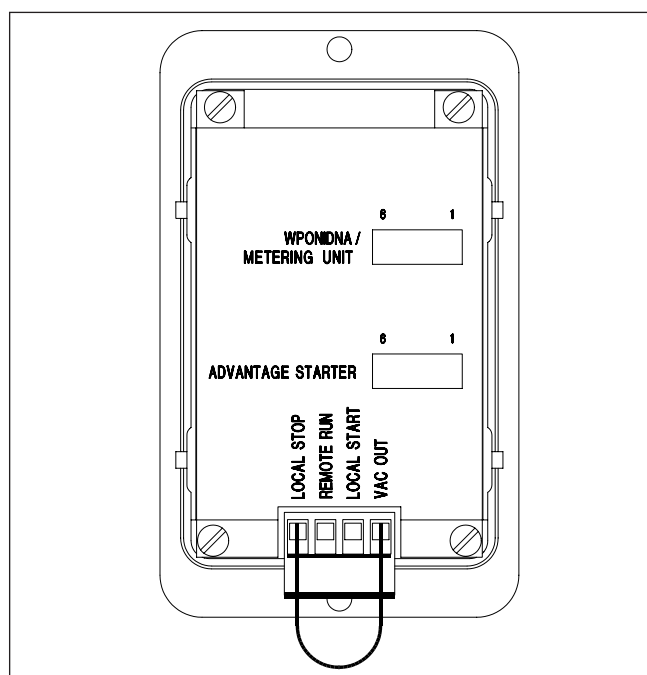
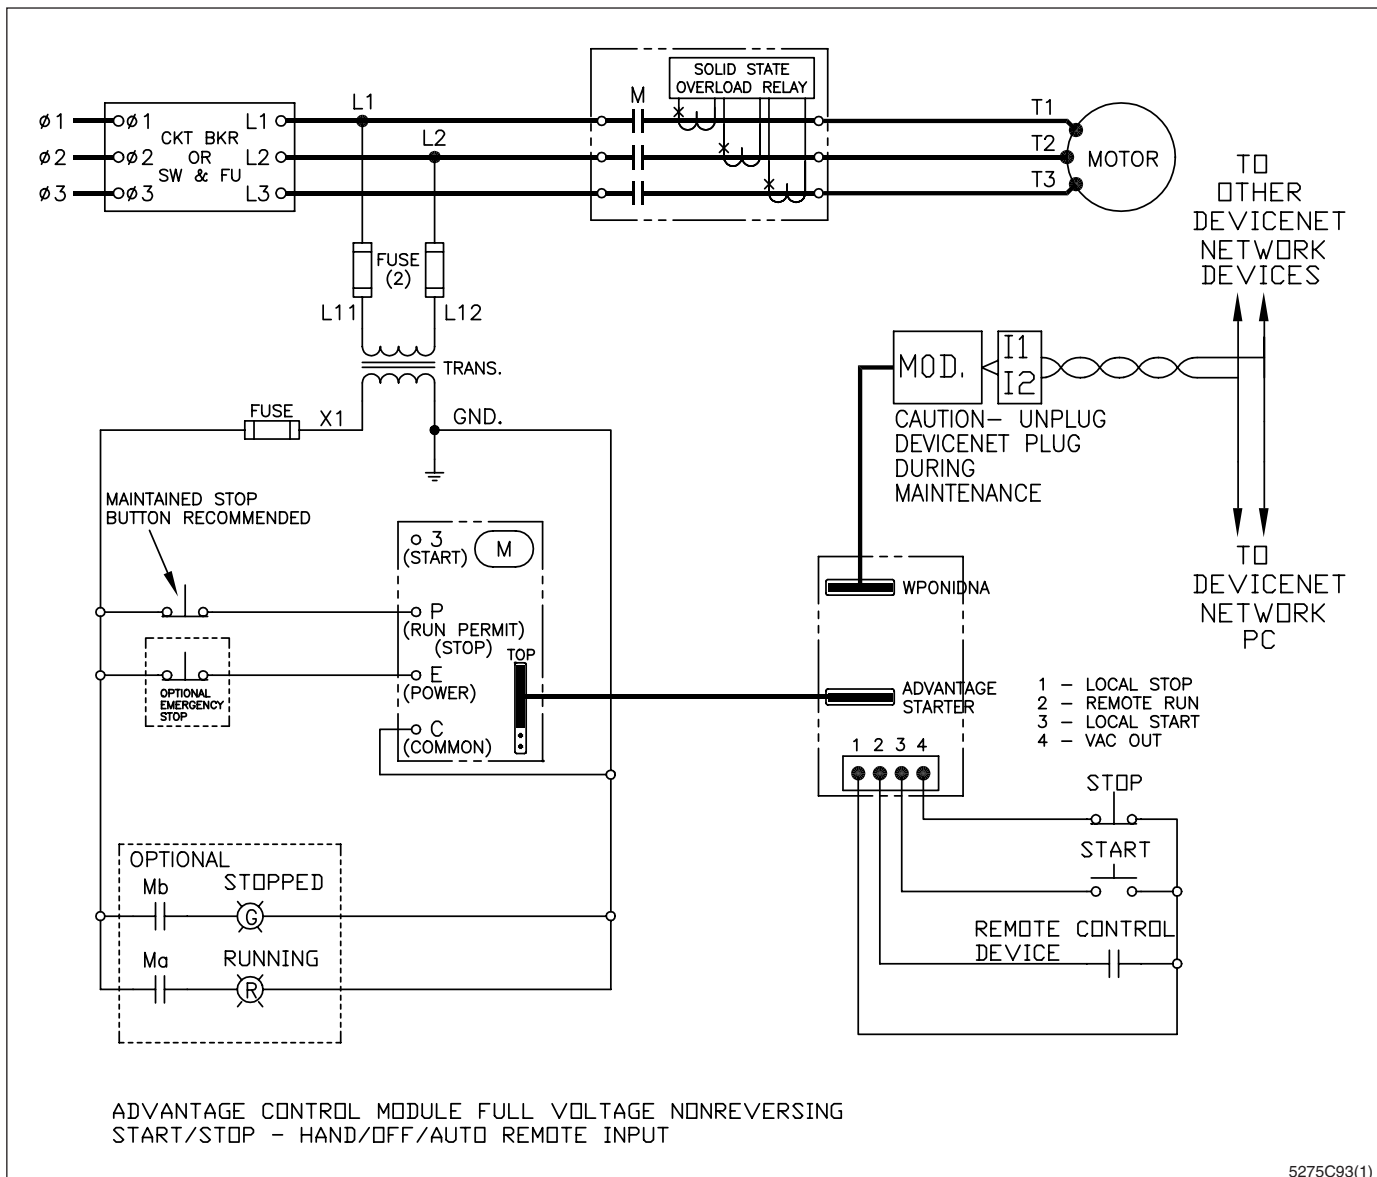

Fig. 3 Rear View of an ACM
Fig. 4 Type WPBFV7 Connection Diagram
Expect the shock mounted printed circuit board inside the device to give under the pressure of insertion. If remote inputs are used, wire the units per the provided figures. Connect the WPONIDNA to the open connection on the back of the ACM labeled, "WPONIDNA/METERING UNIT". See Figure 3.
**DO NOT CONNECT ANY EXTERNAL 120VAC SOURCE TO THE REMOTE INPUT TERMINAL LABELED "VAC OUT" ON THE BACK OF AN ACM. SEE FIGURE 3. DO NOT CONNECT ANY EXTERNAL LOADS (PILOT LIGHTS, RELAYS, ETC.) TO THE TERMINAL LABELED "VAC OUT".**
**THIS TERMINAL IS TO BE USED ONLY FOR THE WIRING OF THE REMOTE CONTROL DEVICES PER FIGURE 4.**
The optional EMERGENCY STOP pushbutton shown in the Figure 4 provides a faster stop (by approximately 1/10 of a second) by bypassing the distributed opening sequence provided when the normal STOP pushbutton is operated. The built-in distributed opening sequence insures that each set of contacts associated with a phase takes its share of the wear associated with opening the circuit first and the ease of opening last. This provides uniform wear on all contacts and provides longer life for a given set of contacts, i.e., all three phases wear at the same rate.
See Figure 4 for control device wiring details. If the terminal input pushbuttons are not connected per Figure 4, a jumper must be connected between terminals VAC OUT and LOCAL STOP (see Figure 3) in order to control the starter from the front panel START/STOP membrane pushbuttons or with the DeviceNet system. As long as an ACM is connected to an Advantage motor controller, control is not allowed via the 3PEC terminals of the starter. The 3PEC terminals can only be used to stop the starter.
- If remote inputs are used, they are not wired per Figure 4.
- Correct the remote input wiring per Figure 4.